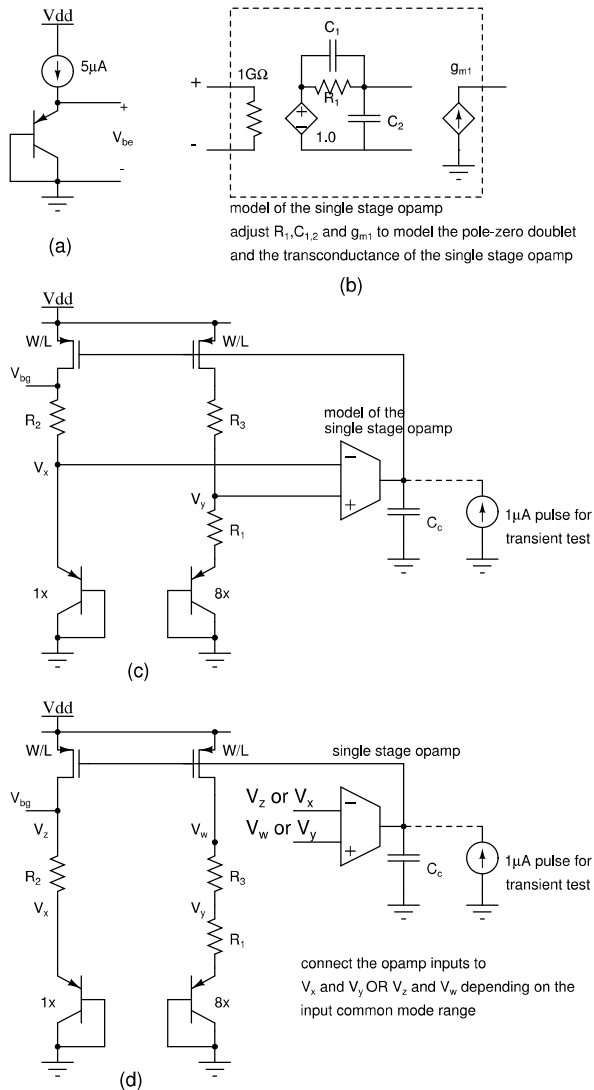

Figure 2: Bandgap reference
- Bandgap reference:** Bias a 1x sized diode connected PNP¹ at 5 μA as shown in Fig. 2(a) and sweep the temperature from 0 to 100°C. Determine dV_{BE}/dT at 27°C.
Design the bandgap shown in Fig. 2(c). Choose R_1 for a quiescent current of 5 μA and R_2 to get zero
temperature coefficient at V_{bg} . Choose $R_3 = R_2$. What is the role of R_3 ? Simulate the bandgap reference with the model of a single stage opamp assuming that the single stage opamp is made like the first stage of the previous problem. (Fig. 2(b)-model the g_m , and the pole zero doublet). Choose C_c for ringing $\leq 10\%$. Test the bandgap reference by sweeping the temperature from 0 to 100°C and plot V_{bg} . Test the transient response by applying a 1 μA pulse to the output of the opamp. Adjust the values of R_1 , R_2 , $R_3 (= R_2)$ if necessary to get zero TC at 27°C.
Modify the circuit as in Fig. 2(d). How should V_x , V_y , and V_{bg} change? What is the purpose of this modification? Resimulate with the opamp model as before and test the temperature sensitivity, transient response and the loop gain.
Use the model in Fig. 2(b) for the single stage opamp. Use a $50 \mu\text{A}$ quiescent current in M_1 . Adjust the width (with minimum length) of M_1 for a dropout of 300 mV with a 50 mA current. You can use a 1.2V voltage source in place of the bandgap reference. Compensate the loop using a load capacitor C_L for a phase margin of 45° at $I_L = 0$ and $I_L = 50 \text{ mA}$ and choose the higher one. Do the following (except the last one) for two cases ($I_L = 0$ and $I_L = 50 \text{ mA}$ —you can use a current source for the load):